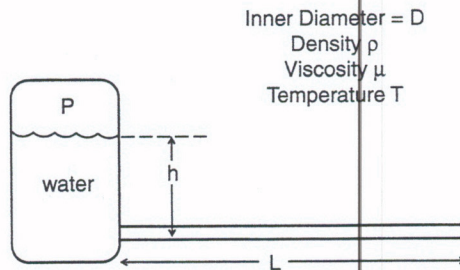

Figure 1.58
36. For the piping system shown in Figure 1.58, what is the average fluid velocity at the pipe discharge? Write the answer in terms of the variables defined in the figure. You may neglect friction in the solution. The tank is not open to the atmosphere; the pipe discharges fluid to the atmosphere.  $P$  is the absolute pressure inside the vapor space over the fluid in the tank, and  $P$  is held constant.